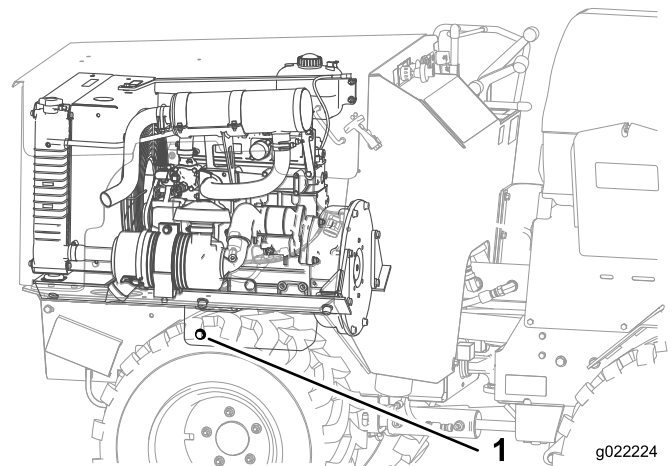

Figure 30
4. Remove the filler cap and the drain bolt (Figure 30).